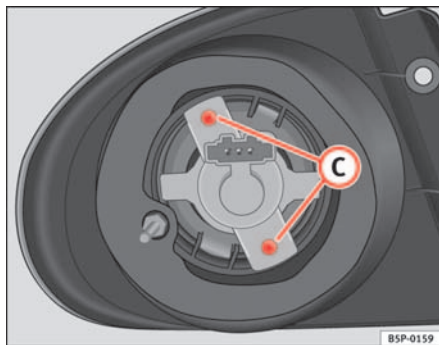

Fig. 190 Indicator lights
- Unscrew the bolts ⇒ page 255, fig. 190 (C) from the lamp holder and pull on this.
- Unscrew the bolts ⇒ fig. 190 C from the lamp holder and pull on this.